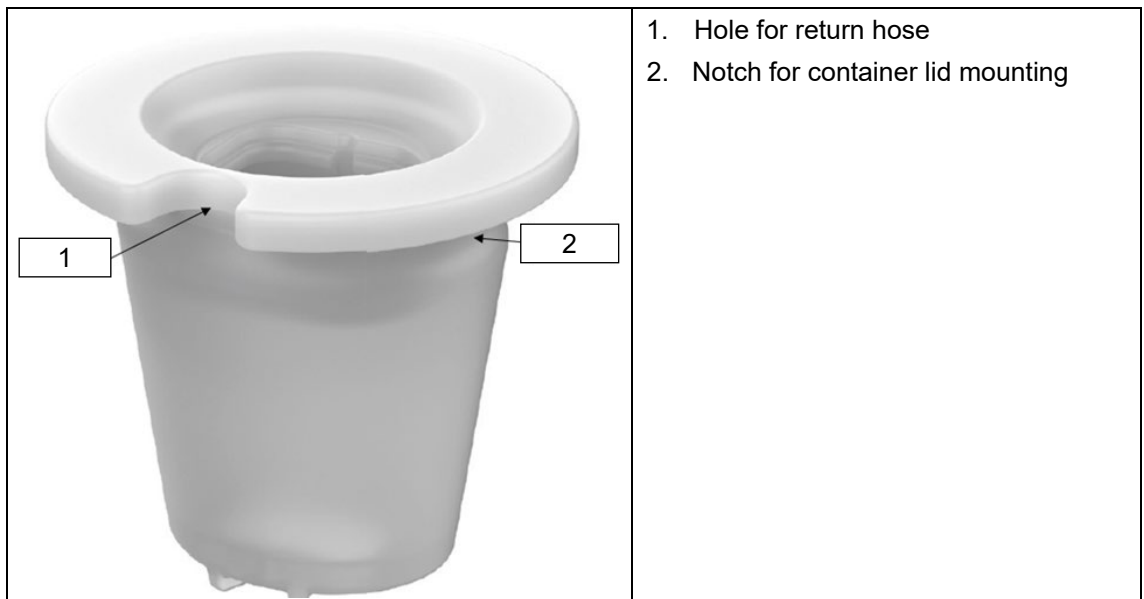

Figure 7
Once the connection is established, the eloLance can be placed directly into the container and fixed with the clamping cone (Figure 7). For larger container openings, a hole with a diameter of $\varnothing 30+1$ mm can be made in the container lid. The notch in the clamping cone (Figure 7, item 2) serves to stabilise the eloLance in the container and can be screwed onto the container together with the container lid. (See chapter 5.4.4 Mounting the container lid on the clamping cone).
The clamping cone (Figure 7) has a multifunctional design and can be used in combination with a conventional container lid to mount the eloLance.
- ▶ Hold the clamping cone and push on the container lid until it is securely seated in the circumferential notch (Figure 7, item 2) of the clamping cone.
- *The hole on the clamping cone (Figure 7, item 1) serves as a hose feed-through.*
Prerequisite: Mounted container lid on the clamping cone (Figure 7).